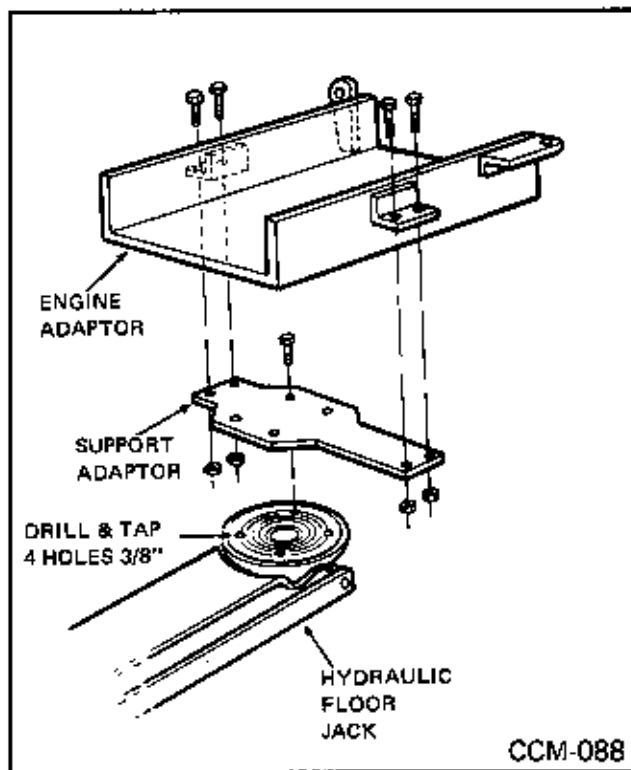

Fig. 83
9. Attach support adapter to the jack with four bolts. (Fig. 83)
10. Attach engine adapter to support adapter with four bolts and nuts. (Fig. 83)